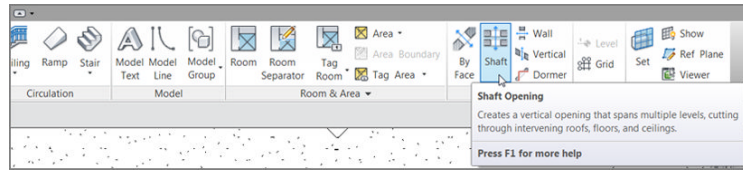

FIGURE 6.55: Clicking the Shaft button on the Architecture tab
2. On the Architecture tab, click the Shaft button in the Opening panel, as shown in Figure 6.55.